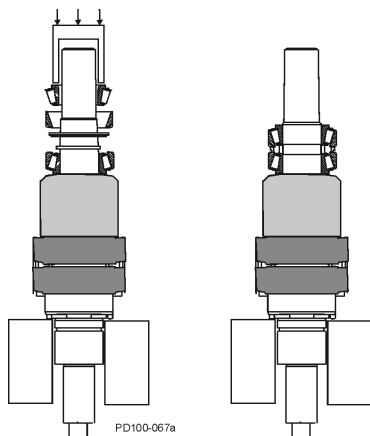

Figure 51 - Rear Tapered Roller Bearing Assembly
1. Unwrap the rear bearing assembly. See Figure 51.